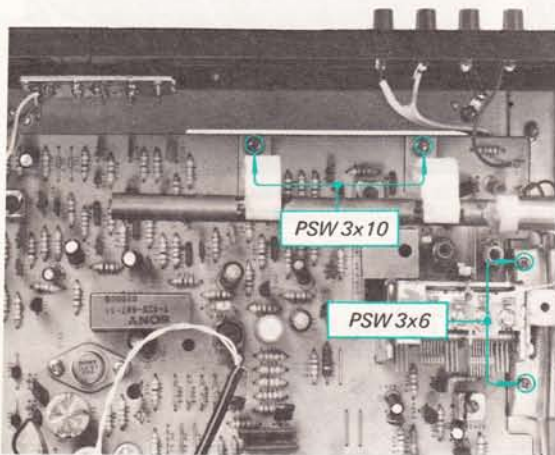

Fig. 2-11. Printed circuit board removal
2. Remove the four screws shown in Fig. 2-11. This frees the printed circuit board.